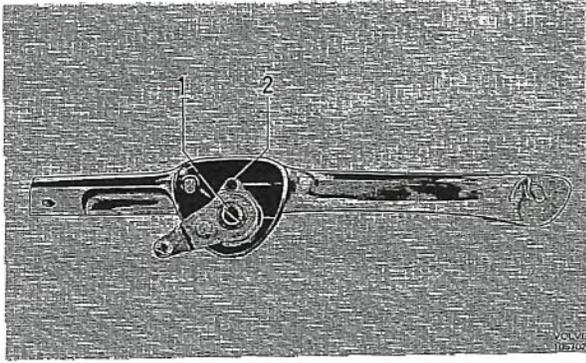

Fig. 8-19. Lock handle
1. Unscrew the bolt (1, Fig. 8-19) for the control lever and the bolt (2) for the sleeve and take off both sleeve and spring.